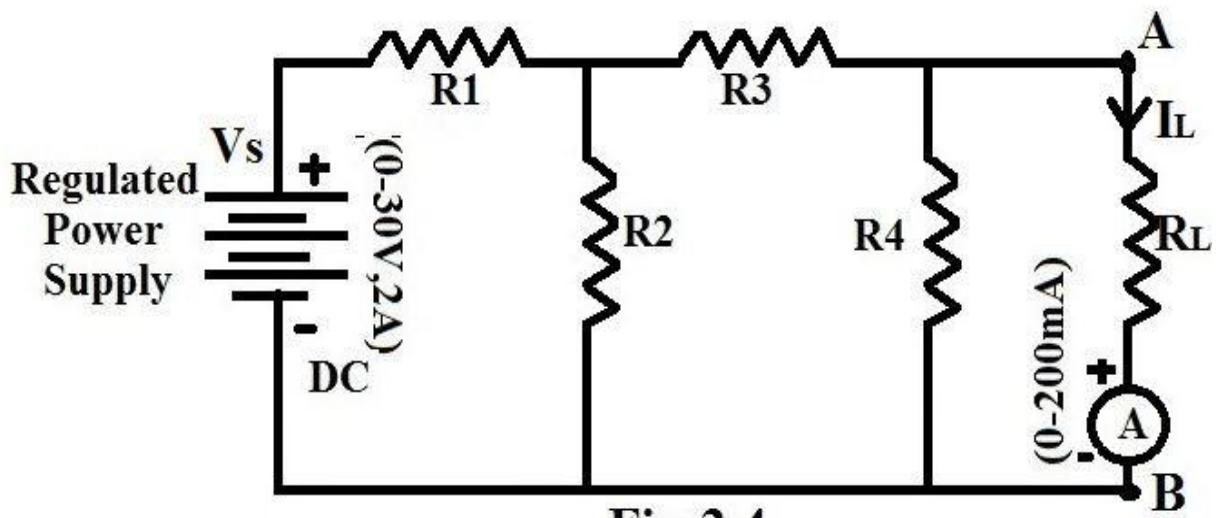

Fig:2.4
1. To find Load Current (I_L), Apply the supply voltage $V_s = 5V$ by using Regulated Power Supply and Find the load current (I_L) through the load resistance with circuit as shown in Fig 2.4.